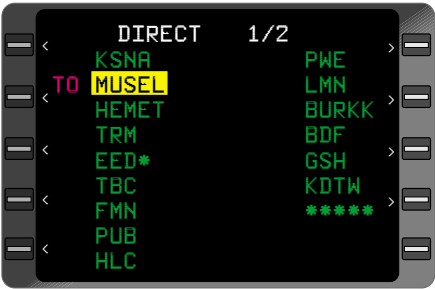

Figure 3-88
1. **→** Key - DEPRESS. A **DIRECT TO** Page will appear with the cursor over the current TO waypoint. (Figure 3-88)